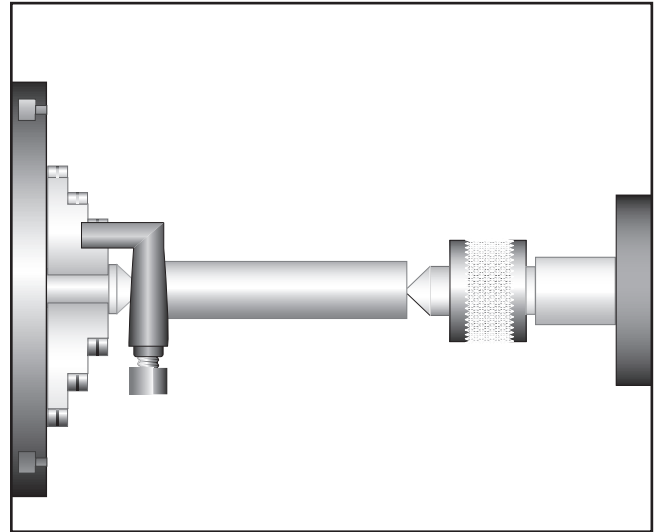

Figure 70. Bar stock mounted on centers.
4. Attach a lathe dog to the bar stock and mount it between the centers. See **Figure 70**.